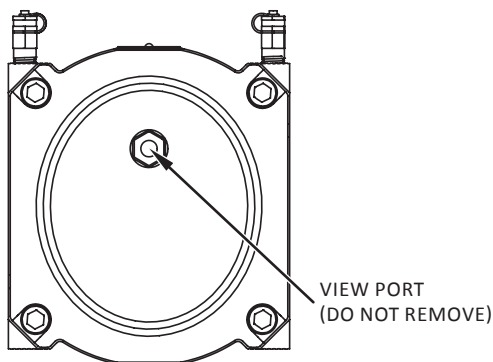

Figure 8. Back of meter
- Slowly open the meter's outlet valve until the meter starts to operate at low speed. Meter speed can be seen through the view port located on the back of the meter (Figure 8).